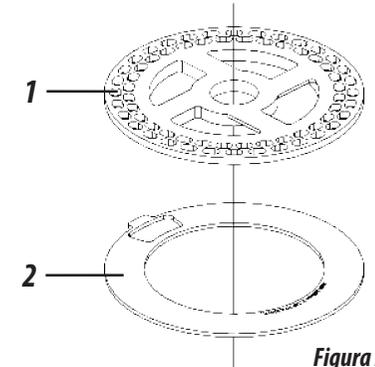

Figura 23
**ELEGIR EL DISCO CORRECTO ( FIGURA 23 )**